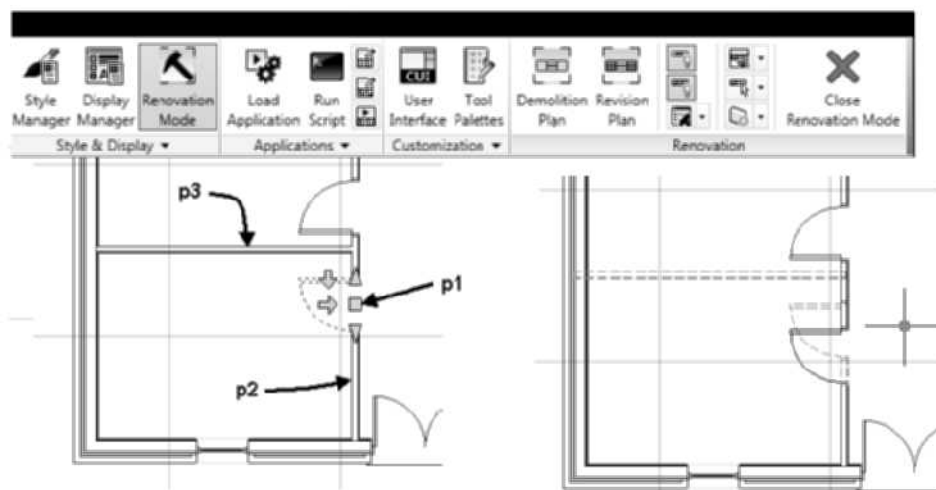

FIGURE 1.66 Creating content for demolition and new categories
7. Select the door at **p1** as shown in Figure 1.66. The door includes grips to edit the hinge, swing, size, and location of the door. Choose the square grip at p1 to change the door location, and drag the cursor toward **p2**.
9. Select the wall at **p3** as shown in Figure 1.66, right-click, and choose Basic Modify Tools > Delete. The display of the wall is represented by a dashed line.